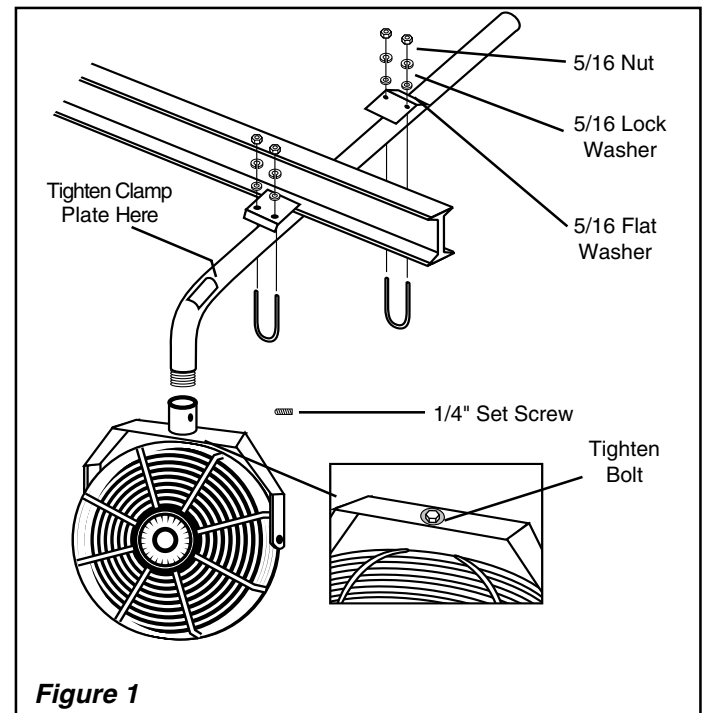

Figure 1
1. Locate the L-shaped pipe to the desired location on the I-Beam flange. Install the 5/16 x 2" U-Bolt over the pipe and through the clamping plate holes. The flat part of the clamping plate sits on the I-Beam flange and the end with the slight bend goes against the pipe. Install flat washers, lock washers and nuts. Finger tighten the nuts on the U-Bolt. (*Figure 1*)